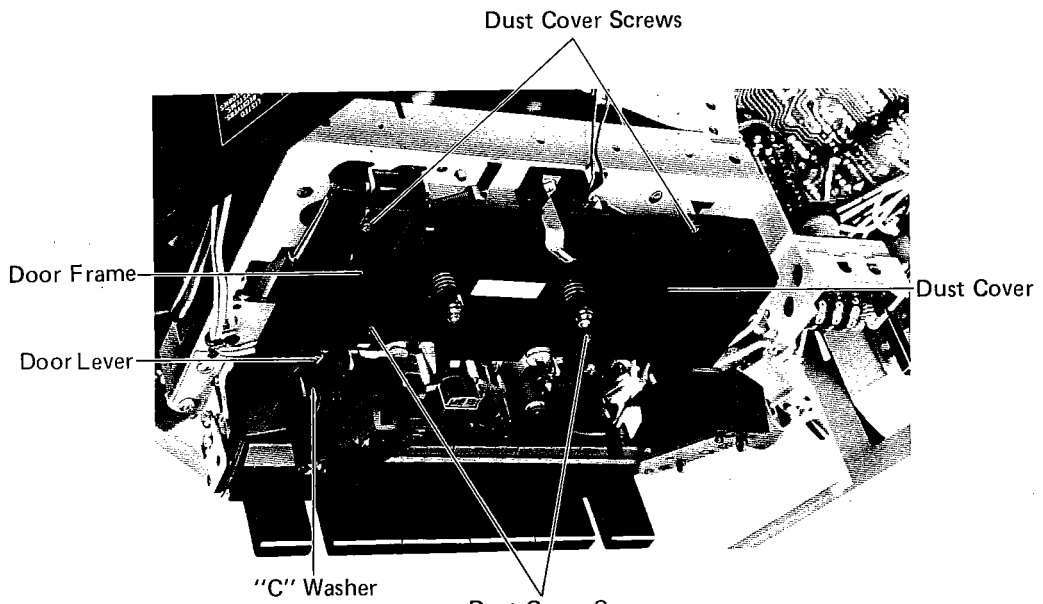

Figure 11
- (1) Remove a "C" washer from the door lever and then remove the door lever and the door frame as shown in Figure 11.
- (2) Remove four screws from the dust cover as shown in Figure 11.
- (3) After removal of the dust cover remove the Counter Belt.
- (4) For above procedures, make sure not to touch and close magnetic tools to tape heads.